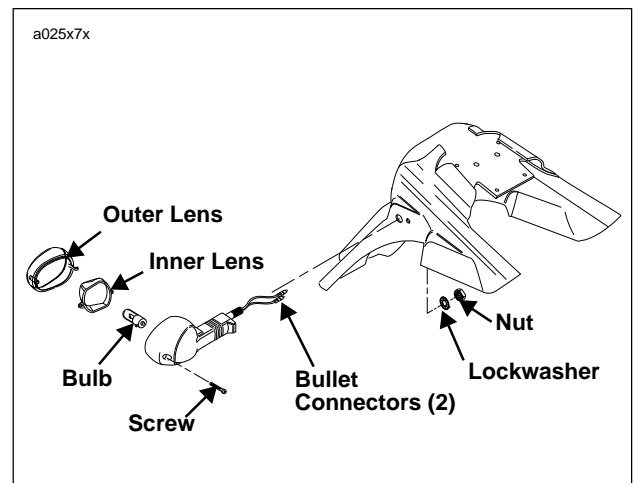

Figure 7-71. Rear Turn Signals
3. See Figure 7-71. Remove nut and lockwasher.
1. See Figure 7-71. Insert bullet connectors through rear hole in tail lamp bracket. Attach turn signal using lock-washer and nut. Tighten nut to 25-28 **in-lbs** (2.8-3.2 Nm).